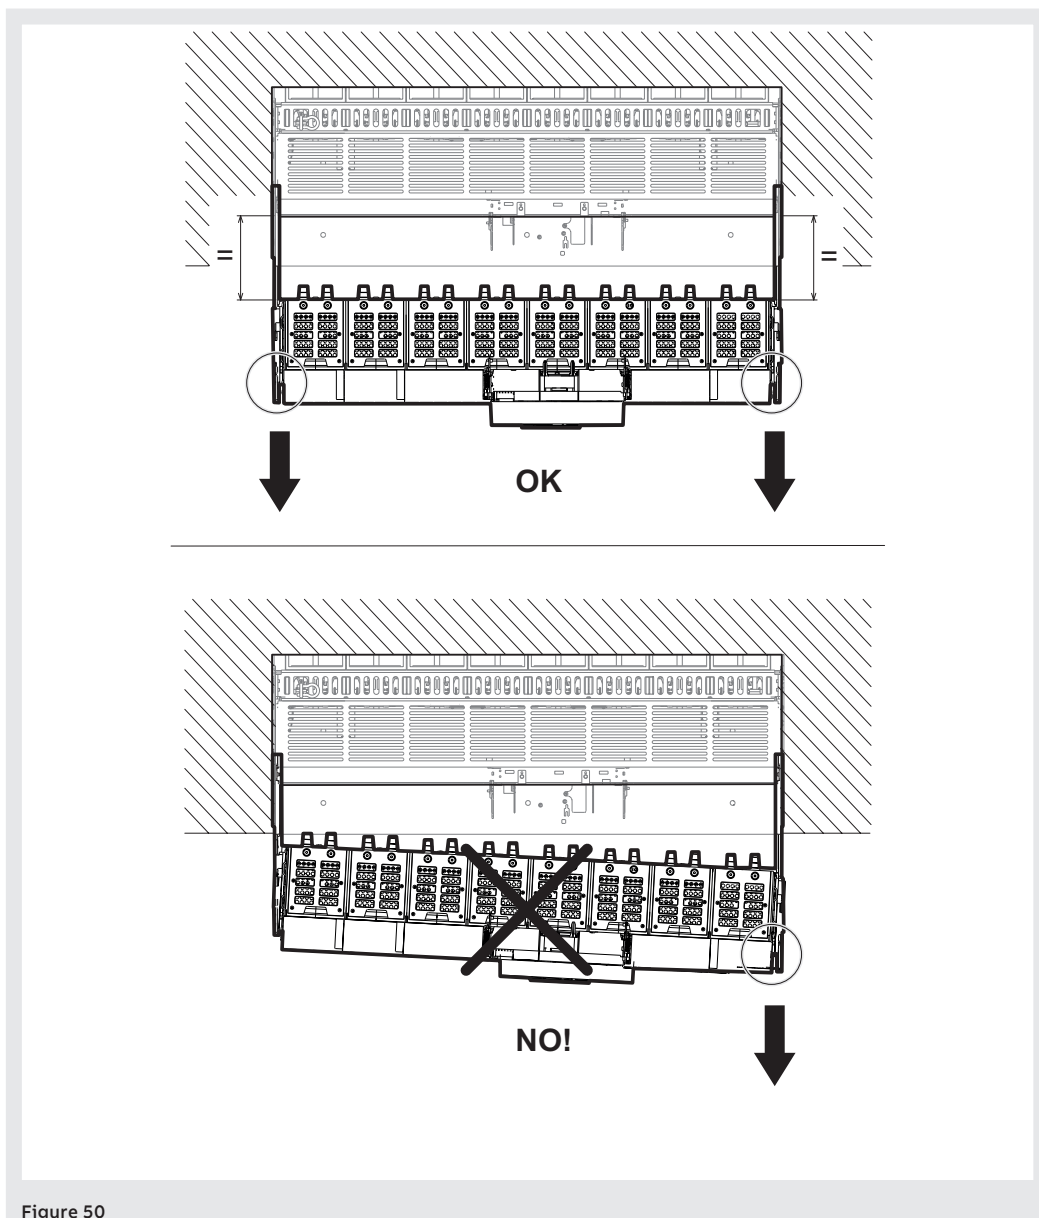

Figure 50
**WARNING!** When withdrawing the moving part, make sure that both guides on the fixed part travel to the same extent, thereby keeping the moving part parallel to the fixed part. See Figure 50.